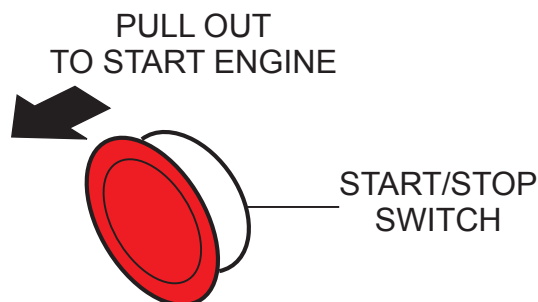

Figure 12. Engine Start/Stop Button
5. Located at the rear of the mixer frame is the main **start/stop** button (Figure 12). Pull this button outward to start the engine.